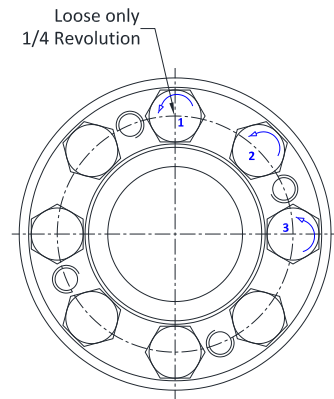

FIG.05
- Loosen the clamping screws uniformly in multiple steps by $\frac{1}{4}$ revolution for each step to prevent misalignment of the clamping surfaces and breaking of screws. (as shown in FIG.05)